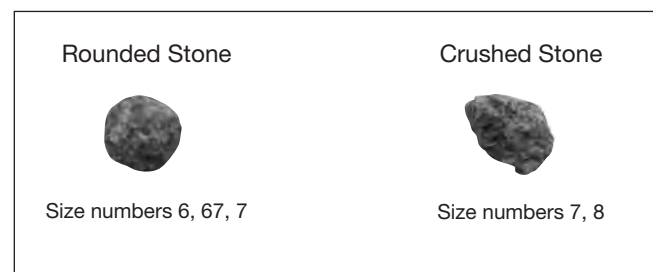

FIGURE 6-1
6.2.1.3. When using select rounded stones, they must conform to the specifications of ASTM C 33, size numbers 6, 67 or 7. See FIGURE 6-1 and Xerxes Primary Backfill Requirements, APPENDIX B, for additional information on backfill material specifications.
6.2.1.4. When using select crushed stones, they must conform to the specifications of ASTM C 33, size numbers 7 or 8. See *FIGURE 6-1* and *Xerxes Primary Backfill Requirements, APPENDIX B*, for additional information on backfill material specifications.